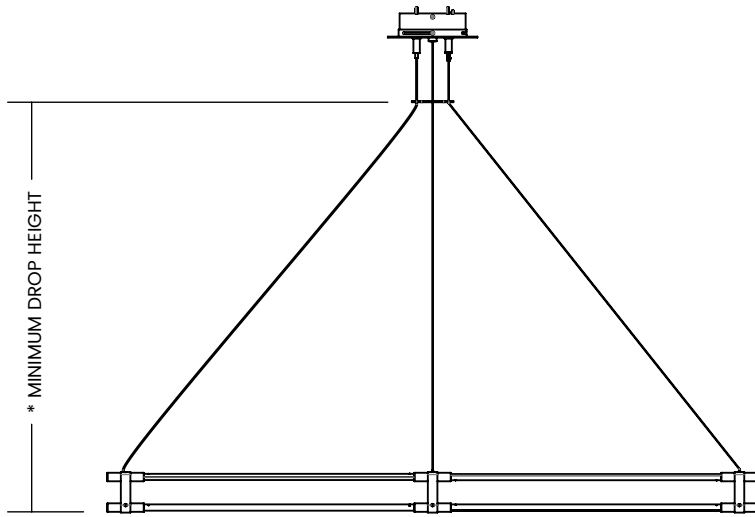

FIGURE 12
1. Drop the fixture's suspension height to meet the minimum requirement shown in Figure 12 to avoid damaging the light tubes.